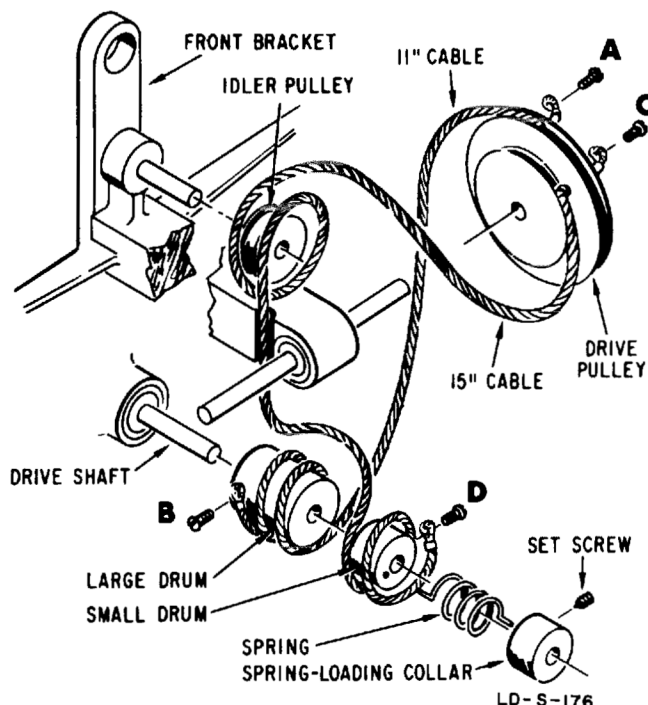

Figure 4-8. Exploded Rear View of Drive Cabling
a. Remove old dial cable and screws at A, B, C, and D (see Figure 4-8). Loosen setscrew in spring loading collar on rear of drive shaft.
c. Set instrument tuning dial to high frequency limit and rotate tuning capacitors so plates are open full. Fasten cable at A and thread as shown in Figure 4-8 with other end fastened by screw at B on large drum.
e. Revolve spring loading collar counterclockwise (viewed as shown in Figure 4-8) until slack is removed from drive cables. Rotate an additional half turn counterclockwise to tighten spring and tighten setscrew.